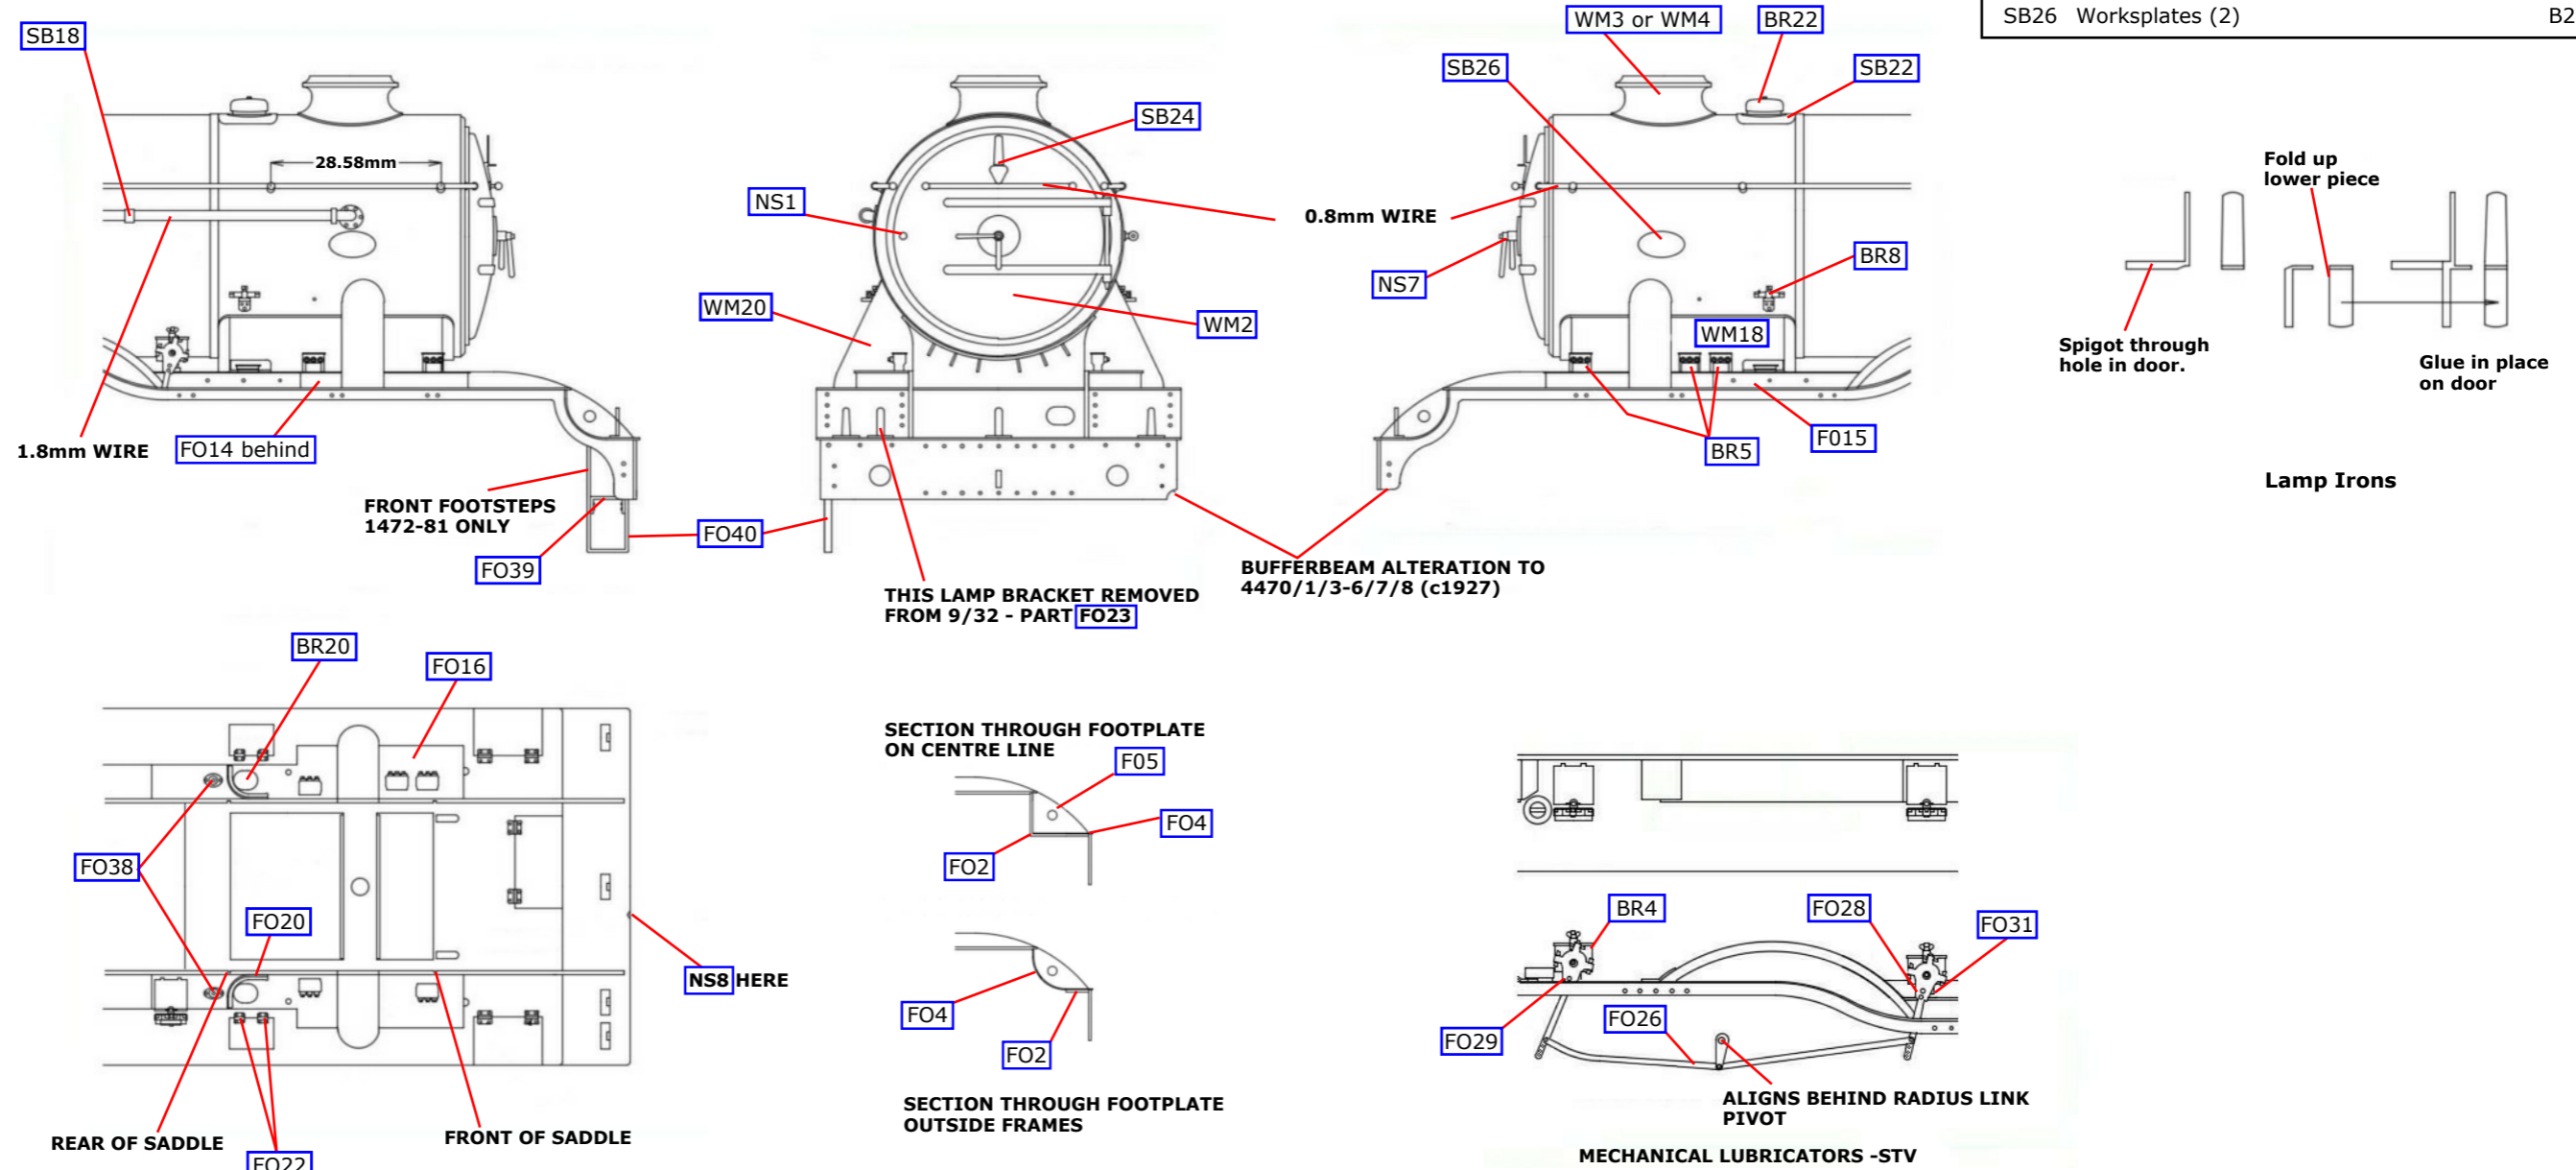

Fig 20. Footplate short travel valves
Curve the rear valance behind the drag beam as shown below. Fold up the front drop plate (FO2) and solder in place behind the buffer beam (see Fig.20 & 21) and between the valances so that it is flush with their upper edges.
Curve the outer edges of the front drop plate footplate overlay (FO4) and locate in place over the lamp irons; locate the front frame extensions (FO5) and then solder up all the joints at the front end. See Fig.20 & 21 for further clarification.
If required add the extra front footplate lamp iron (FO23) as shown in Fig.20 below. To complete the front footplate area add the white metal smoke box saddle (WM18), ensure the front and rear faces align with the half etched lines inside the frames.
**Boiler/smokebox parallel section.** Emboss the rivets around the ejector exhaust pipe flange on the boiler/smokebox parallel wrapper (SB13). Drill the required handrail knob holes in the smokebox wrapper; see STV and LTV (Fig.20 & 21) for details.
To complete the smokebox, refer to the two previous sections on STV and LTV front ends (Fig.20 & 21).